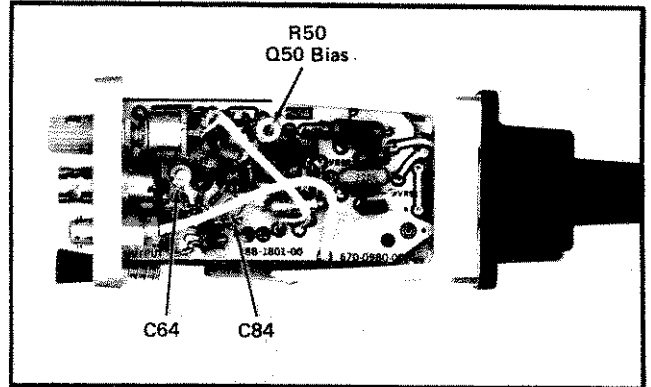

Fig. 5-9. Output board, on the instrument right side, showing the location of internal controls.
2. Adjust Q50 Bias (R50) ❶
b. Adjust R50 (see Fig. 5-9), first fully clockwise, then slowly counterclockwise until the rising portion of the PULSE OUTPUT signal appears on channel 2. Note this position and continue to adjust R50 slowly counterclockwise until the rising portion of the PULSE OUTPUT signal disappears. Then set R50 midrange between the two positions. See Fig. 5-1A.
3. Adjust Lead Time Cal (R10) ❷
d. Adjust C64 (see Fig. 5-9) for fast risetime without overshoot. No further adjustment is required for C64 or C84 if the risetime (10 to 90% amplitude) is 1 ns or less and the aberrations (less than +1.5%, -1.5%, total of 1.5% P-P of amplitude) are within the specifications. Normally C64, when misadjusted, will show a slight overshoot and faster risetime. If no effect is noticed with the adjustment of C64, or the pulse overshoot cannot be reduced, an improvement may be possible with a change in the capacitance of the wire capacitor (twisted pair of wires) C84.